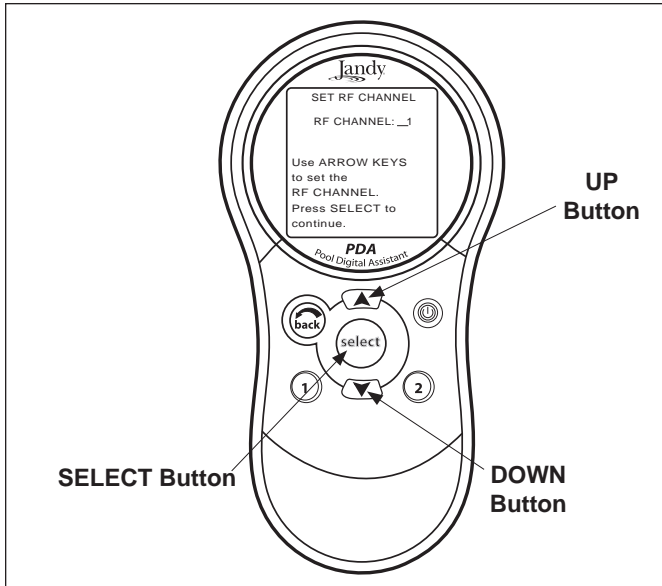

Figure 21. PDA Handheld Remote Channel Setup and Buttons
2. On the PDA Handheld Remote, press and hold both the UP and DOWN arrows simultaneously for three (3) seconds. After 3 seconds, the CHANNEL SETUP screen appears (see Figure 21). Select a channel.